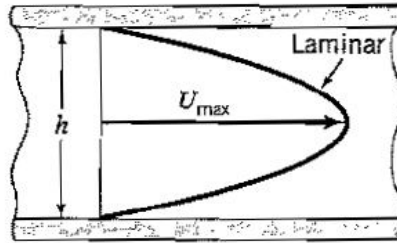

Figure P1.33
1.33 When water at 40°F flows through a channel of height h , width W and length L at low Reynolds number, the flow is laminar and the velocity distribution is parabolic, as shown in Figure P1.33. When $h = 2\text{in.}$, $W = 30\text{in.}$, $L = 10\text{ft}$, and the maximum velocity is 1ft/s :